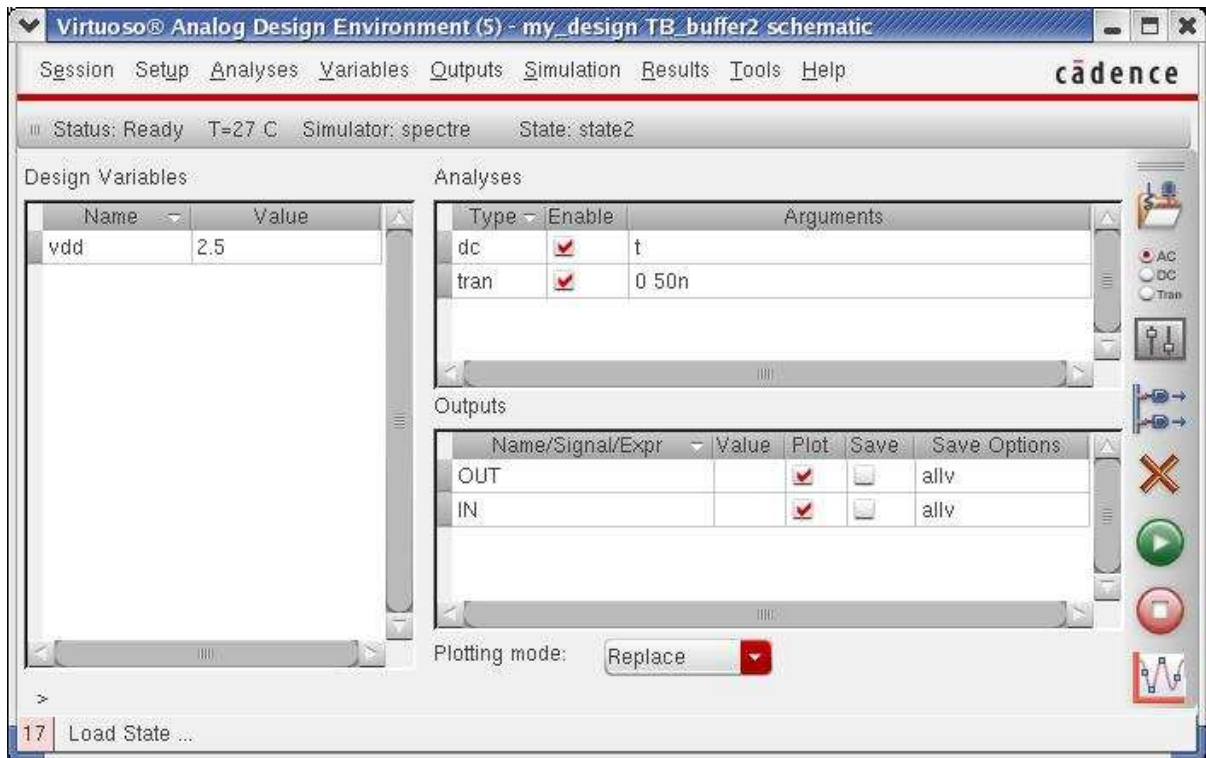

FIG. 46 Open ADE L (Analog Design Environment L) and use config view for post-sim
2. Open the ADE L (Analog Artist environment L) and use the config view of the test fixture for simulation (fig 46). You can also output the simulation netlist to make sure the